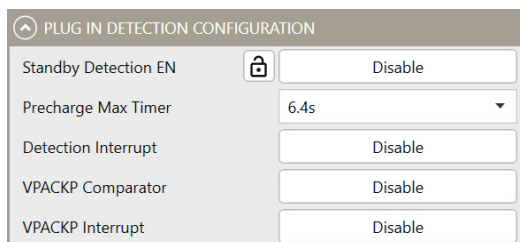

Figure 10: Plug-In Detection Configurations
12. Figure 10 shows how to configure the plug-in detection parameters.